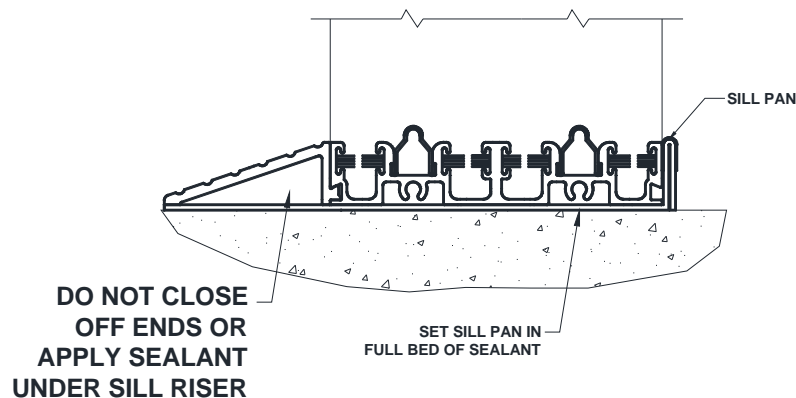

Figure 15:
1. Attach sill to the sillpan with a compatible sealant (Figure 14). Do not place sealant in or next to weep slots or weep holes cut or drilled in bottom of sill (Figure 15). Sealant that blocks weep slots will prevent sill from weeping.